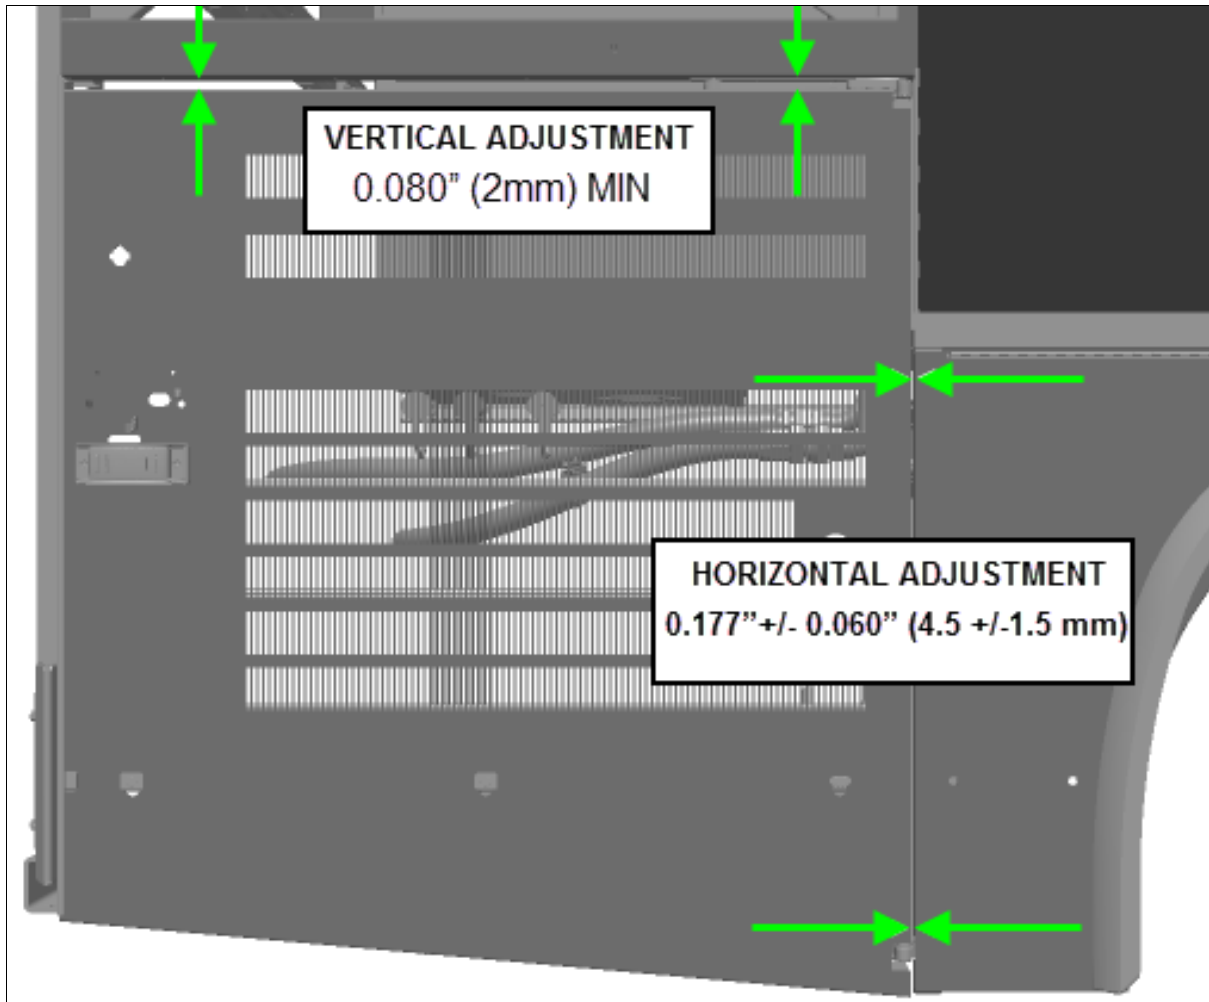

FIGURE 25: COMPRESSOR DOOR HORIZONTAL & VERTICAL GAPS
17. Remove door support installed at step 2 and open and close the door several times to make sure it is working properly, check door top and side adjustments. There should be an even (parallel) gap of at least 0.080" (2mm) at the top of the door and a 0.177" +/- 0.060" (4.5 +/-1.5 mm) gap between the door and the vehicle rear fender (Figure 25).